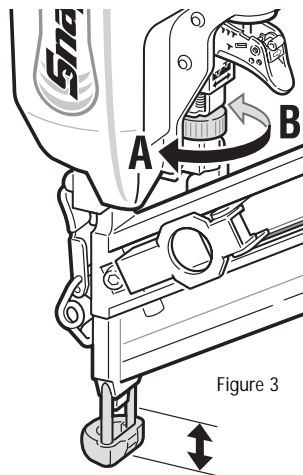

Figure 3
Adjust the depth of nailing by turning the adjustment knob (Figure 3, Item 1) to the left (A) for the deepest setting and to the right (B) for the shallowest setting. To increase the depth of the nails, when the adjustment knob is already set to its highest setting, increase the air pressure. To decrease the depth of nails when the adjustment knob is already set to its lowest setting, decrease the air pressure. Should nails be driven too deep even when the adjustment knob is set at its lowest setting, decrease the air pressure. In general, the angled finish nailer will have a longer service life when the adjustment knob is set a lower setting causing less wear and tear on the driving mechanism.